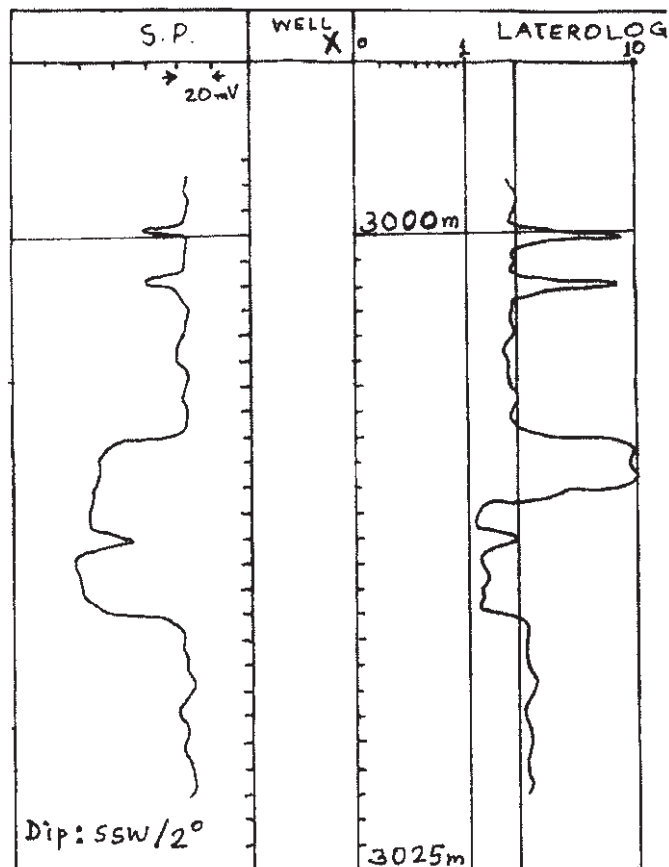

Figure 1. for Q. 5 b.
b) Interpret the log given in figure 1. [5]